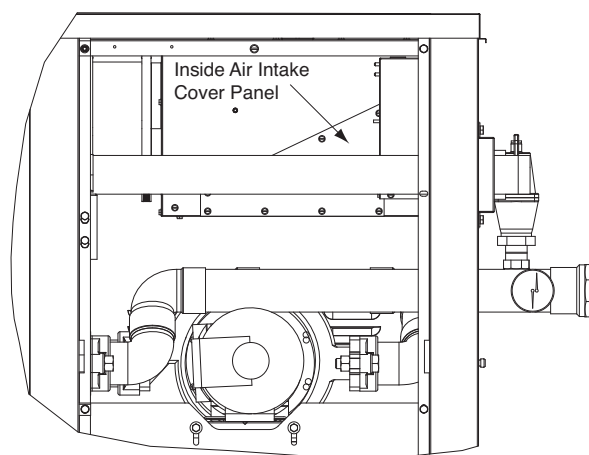

Fig. 8: Install the Inside Air Intake Cover Panel
5. From the right-rear side access area, install the inside air intake cover panel using the nine hex-head screws provided (see Fig. 8).